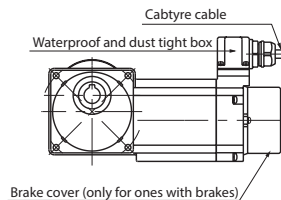

Figure 6-1
- For **a 15 - 90W waterproof type motor**, do not open the cap of a waterproof/dust-proof box (see Figure 6-1); otherwise, waterproof/dust-proof effects will be lost and electric shock, damage, and fire may result.